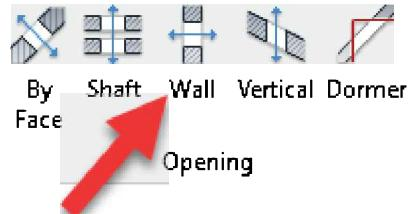

FIGURE 5-4.7 Opening panel
11. Select **Architecture → Opening → Wall**; (Figure 5-4.7).